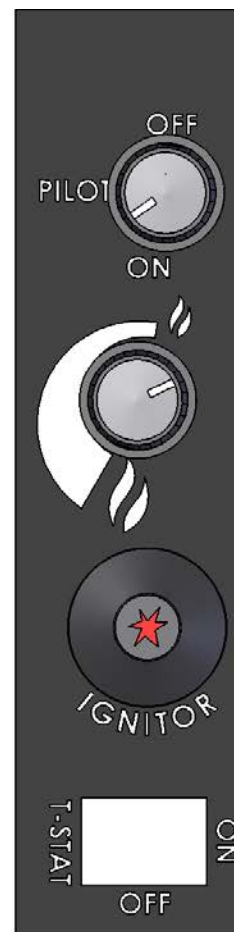

Figure 6: E33 Control Panel.
- An alternate switch location is shown in Figure 6.